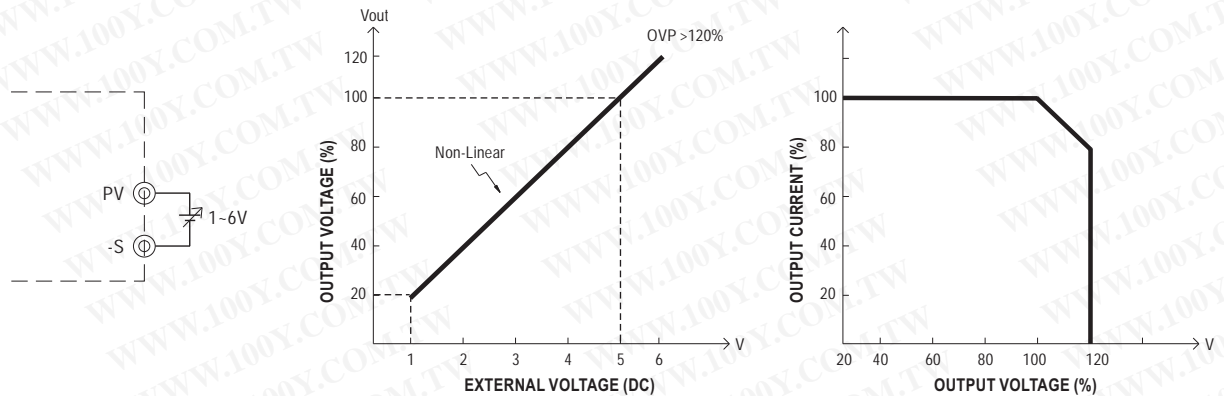

Fig. 3.1 External voltage (Typ.)
- Adjustment of output voltage is possible between 20~110%(Typ.) of the rated output which is shown in Fig. 3.1